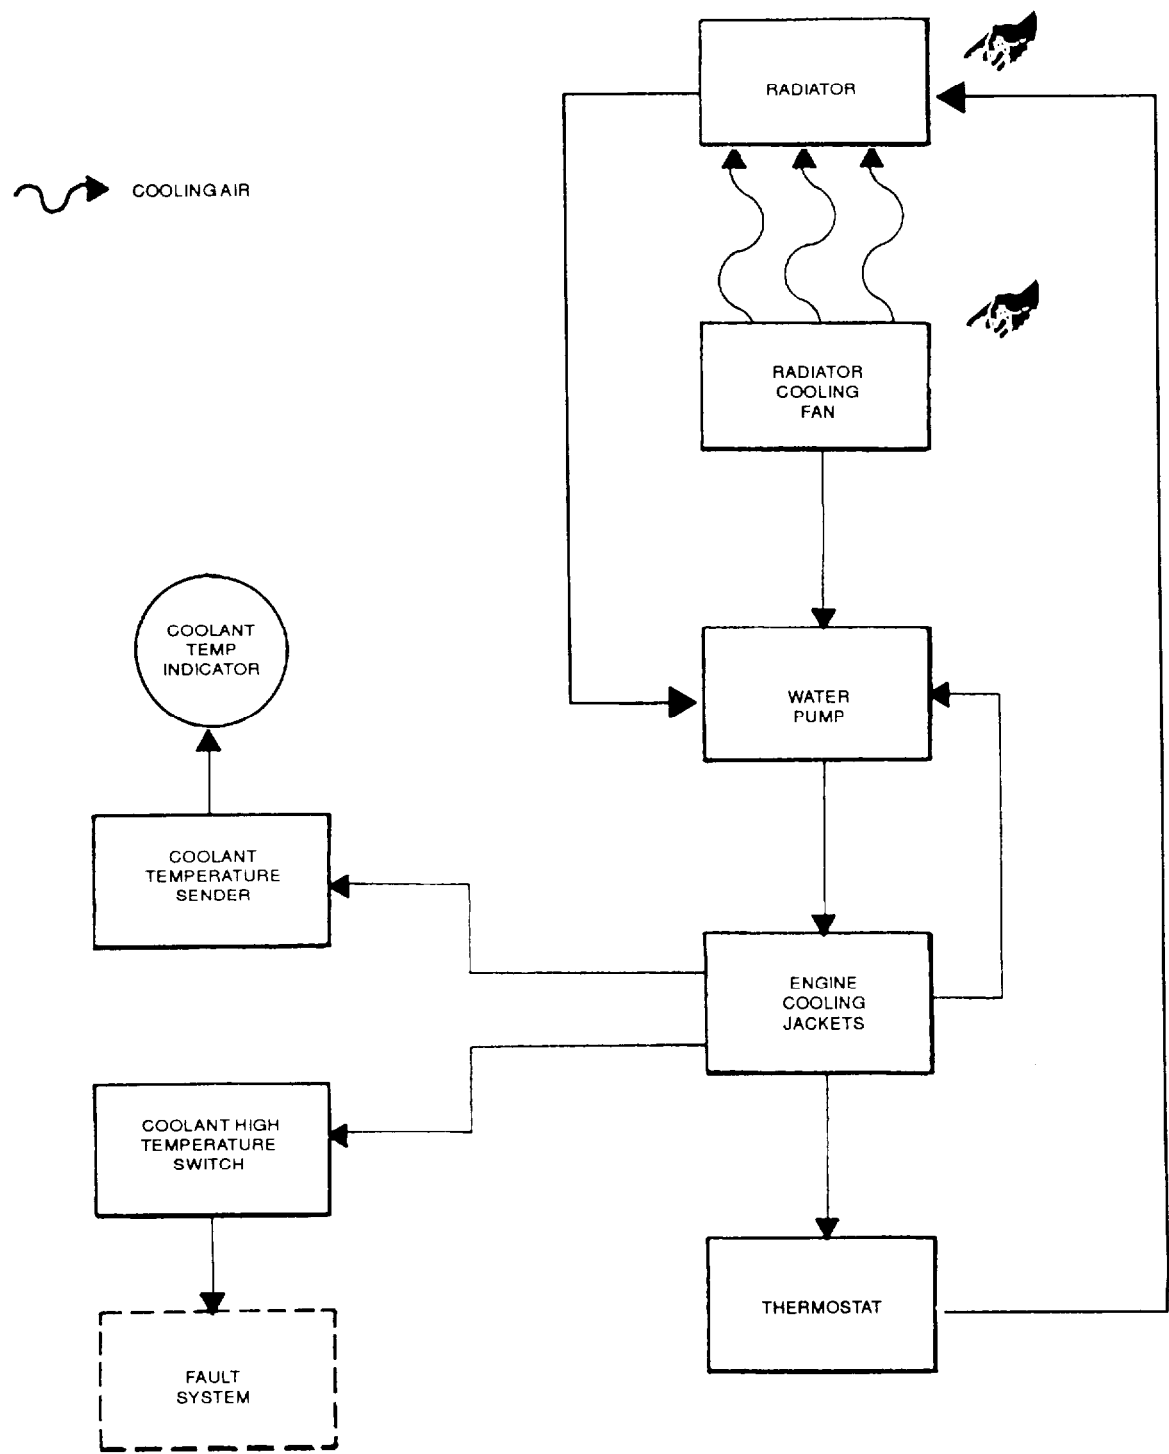

FIGURE 1-5. Engine Cooling System
1.12.4.1 The Engine Cooling System (FIGURE 1-5) consists of a radiator, hoses, thermostat, temperature sender, coolant high temperature switch, COOLANT TEMP indicator, water pump, a belt driven fan, and cooling jackets (part of engine).